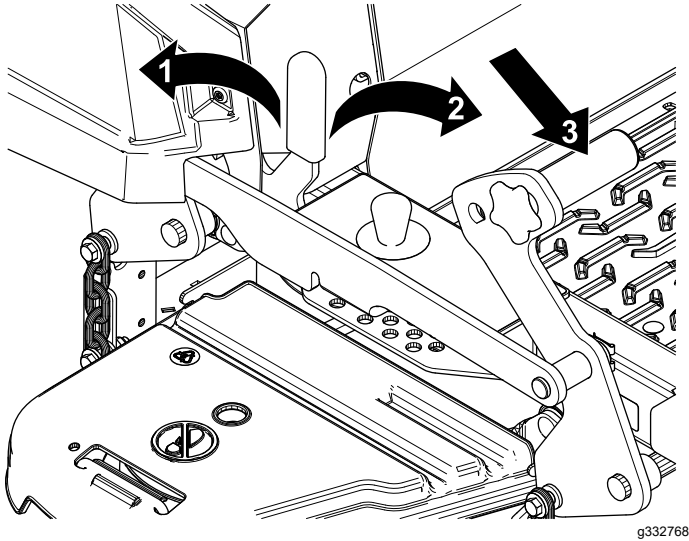

Figure 28
1. Push the deck-lift pedal fully forward to lock the mower deck in the TRANSPORT position (Figure 28).
2. Push the deck-lift pedal forward and push the transport lock forward to the UNLOCK position, then slowly lower the mower deck. (Figure 28).